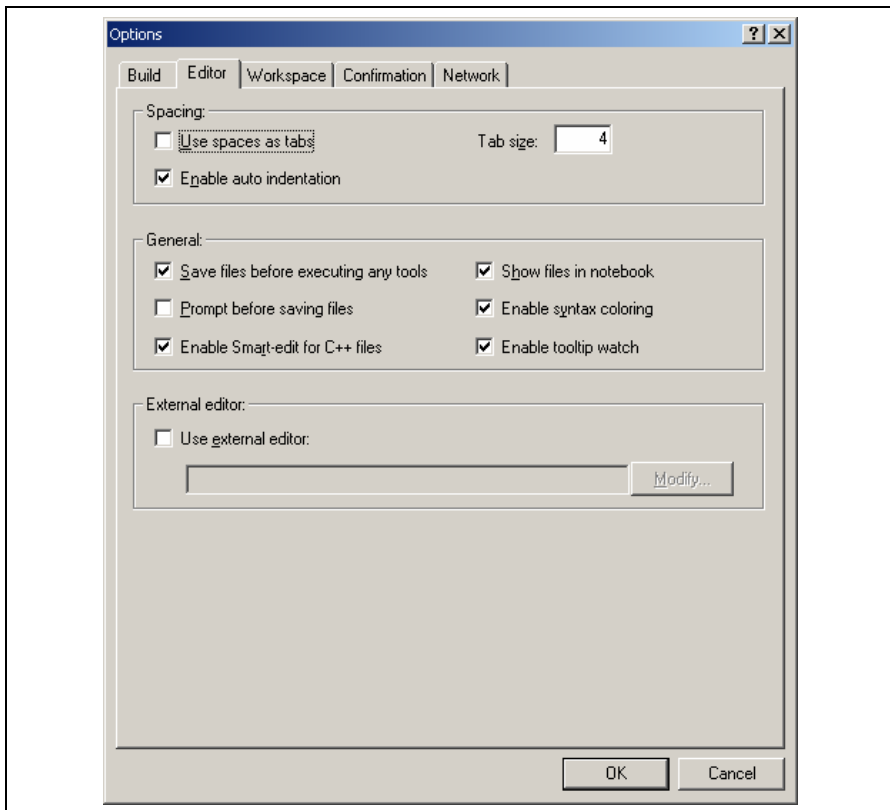

Figure 6.12: Options Dialog Editor Tab
1. Select **[Tools->Options...]**. The “Options” dialog will be displayed. Select the “Editor” tab (figure 6.12).
The High-performance Embedded Workshop allows you to customize file save on the “Editor” tab of the “Options” dialog (figure 6.12). To open the tab, select [Tools->Options...] and click the “Editor” tab.